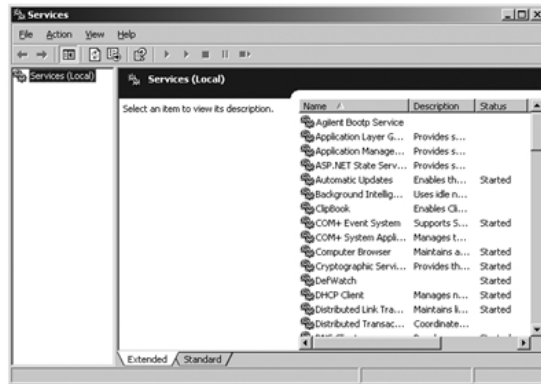

Figure 18 Windows Services screen
- 1 In the Windows control panel, select **Administrative Tools > Services**. The **Services** screen appears, see Figure 18 on page 77.